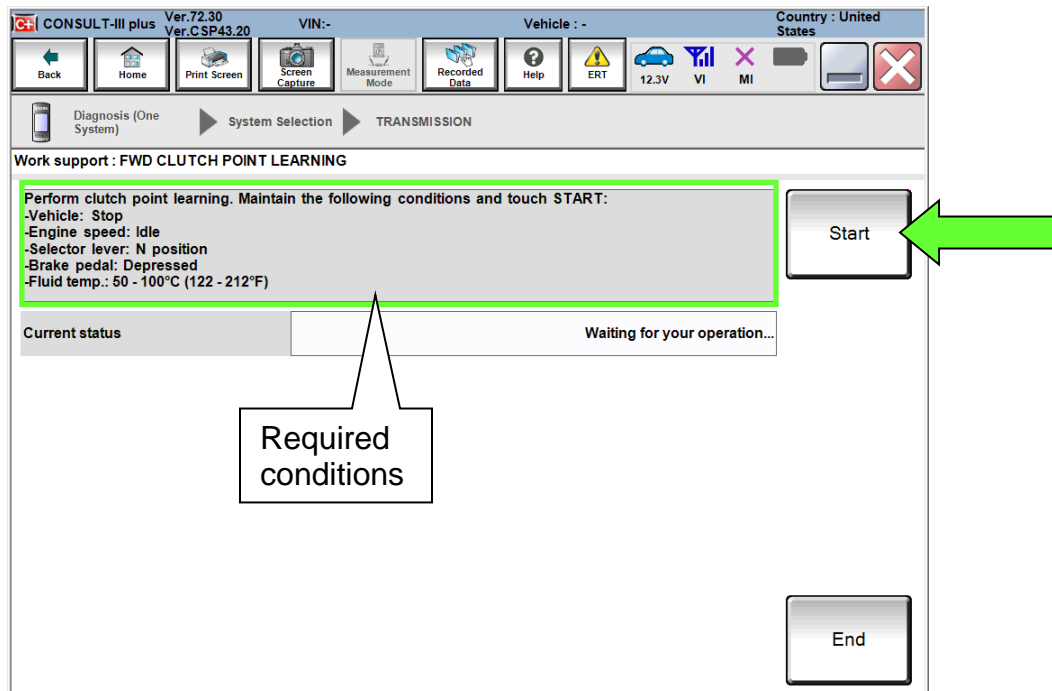

Figure 20J
- Confirm that all of the required conditions indicated in Figure 20J are being met.
11. While maintaining all conditions shown in Figure 20J and the “Current status” indicates “EXECUTING”, shift the CVT into **D** and then wait until the Current status indicates “COMPLETED”.